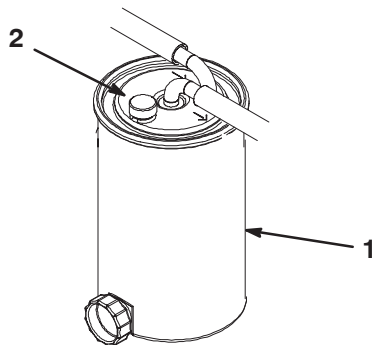

Figure 8
2. Open the breather valve, on top of the canister, until fuel leaks out (Fig. 8).